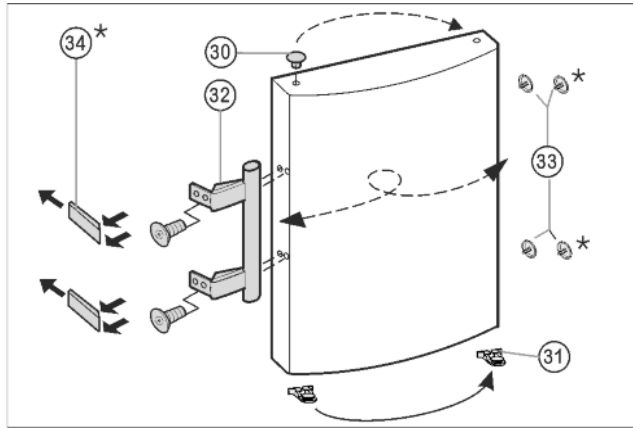

Fig. 7
- ▶ Lift the stopper *Fig. 7 (33)* out of the door bearing bush and transfer it.
- ▶ Dismantle the door handle *Fig. 7 (32)*, stoppers *Fig. 7 (33)* and pressure plates* *Fig. 7 (34)* and transfer to the opposite side.